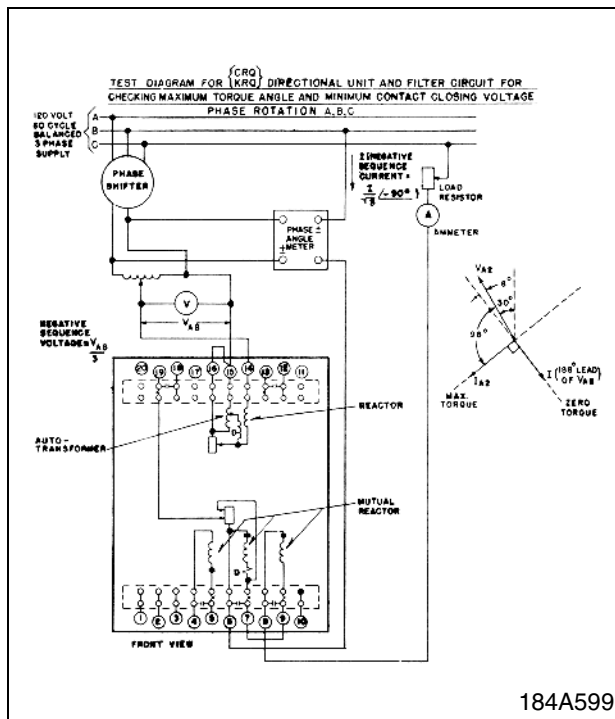

Figure 13: Test diagram for checking max. torque angle and minimum voltage for contact closure of direct units.
2. Sensitivity - Refer to the test diagram in fig. 13. Apply a single-phase voltage V_{12} equal to 0.57 volts (corresponds to a negative-sequence input voltage of .19 volts) and a single-phase current equal to 6.93 amperes as shown (corresponds to a negative sequence input current of 4 amperes). With a phase angle meter connected as shown, rotate the phase shifter until the current leads the voltage by 188°. This corresponds to the negative sequence component of current leading the negative sequence component of voltage by 98°. The directional unit contact should pick up within $\pm 10\%$ of the above input voltage to the relay.
Fault Detector (FD) Either apply three phase negative sequence current equal to the scale setting or apply single phase current equal to $N/\sim 3$ times the scale setting. These currents are applied to the relay terminals as shown in Fig. 13. The contacts should pick-up within 10% of these currents.
The spring is to be adjusted such that the contacts will close when the relay is energized with 0.57 volts and 6.93 amps at 188 ° (current leading voltage 1 considering the relay connected to the test circuit in Fig. 13.
Apply single phase current as shown in fig. 13. Set the micarta disc at some particular current setting on the scale plate. The contact should close within 10% of this value. The core screw at the top of the switch will affect the pickup (as well as dropout). If this is moved then the unit should be checked for erratic action at 30 amps A.C.